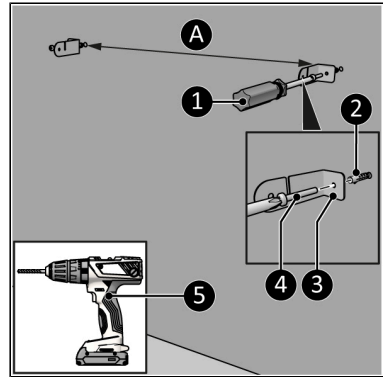

Figure 10.
4. Drill two holes at least 610 mm above the floor for the brackets. The distance between the holes is approximately (Figure 10, pos. A)*:
5. Place wall plugs (Figure 10, pos. 2).
6. Screw and tighten a left and a right bracket (Figure 10, pos. 3) to the wall with a large screw (Figure 10, pos. 4) using a Phillips screwdriver (Figure 10, pos. 1).